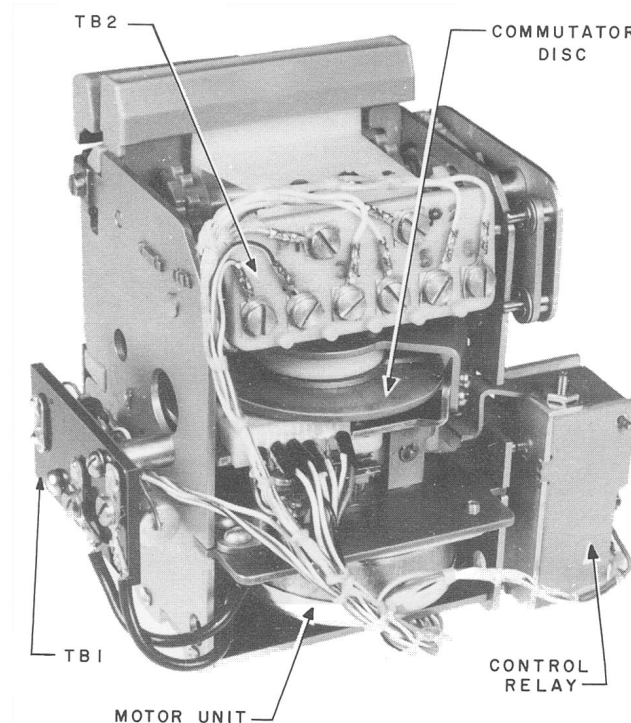

Fig. 5 — 41A Dial, Rear View
- (1) Disconnect the spade tipped conductors on TB2 (Fig. 5).
- (2) Remove three mounting screws in baseplate.